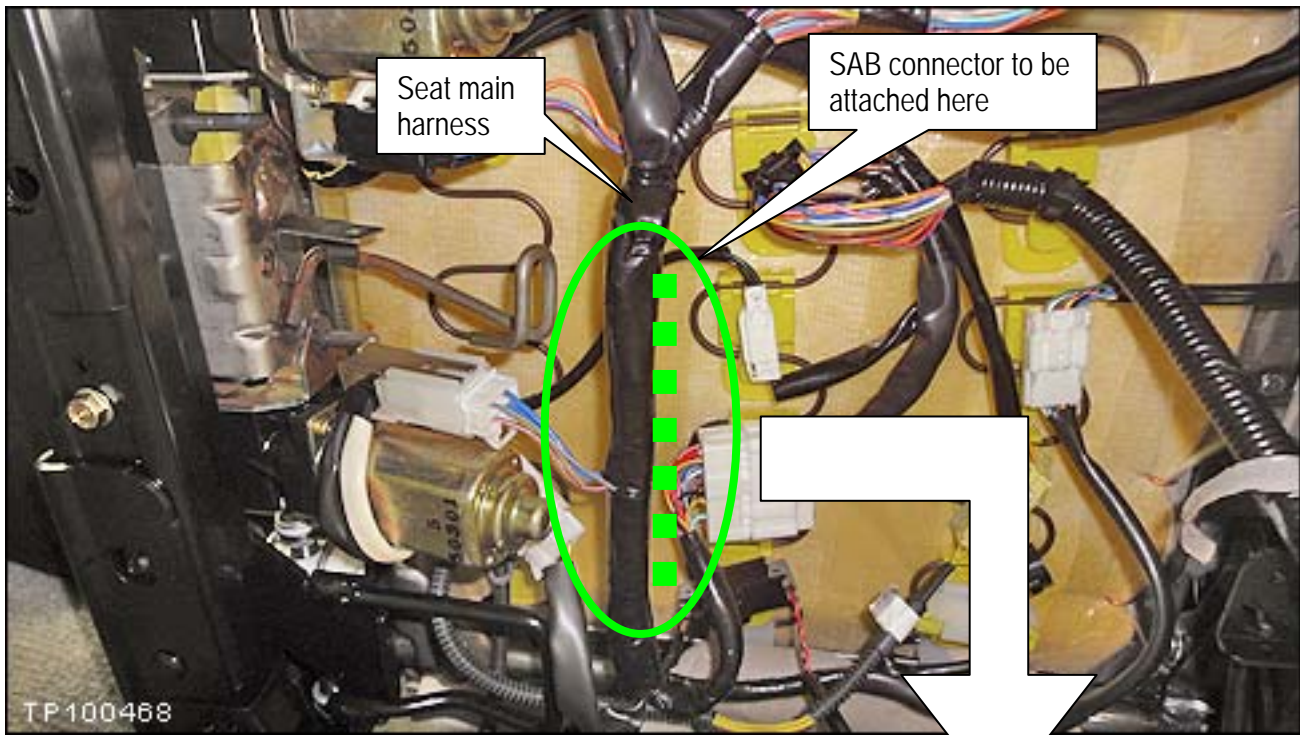

Figure 7b
a. First, use tie-wraps to secure the SAB connector to the main harness (see Figures 7b, 8b and 9b).